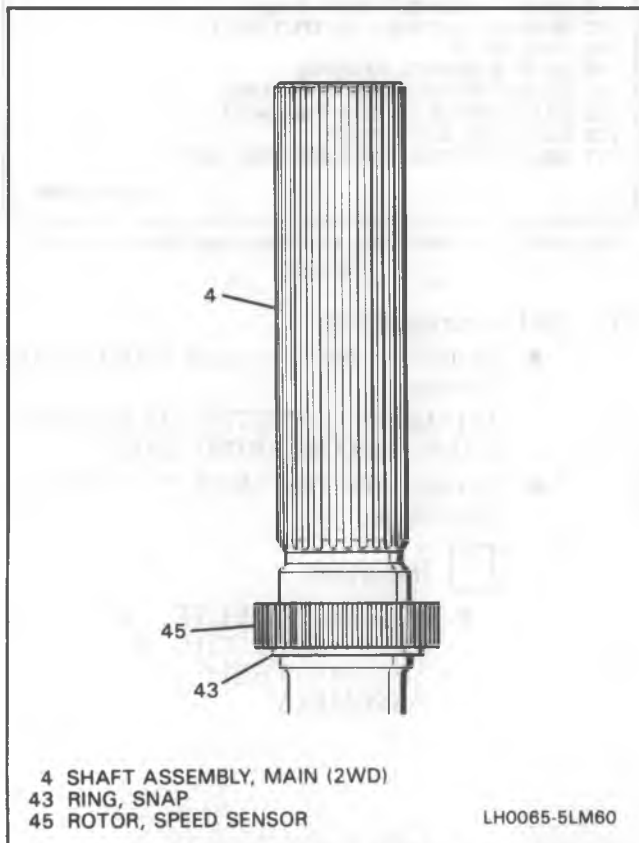

Figure 63 2WD Speed Sensor Rotor Install
7. NEW snap ring (43) (2.00 mm thickness).
8. Snap-ring (43) (Figure 63).
9. 2WD Speed sensor rotor (45) HEATED.